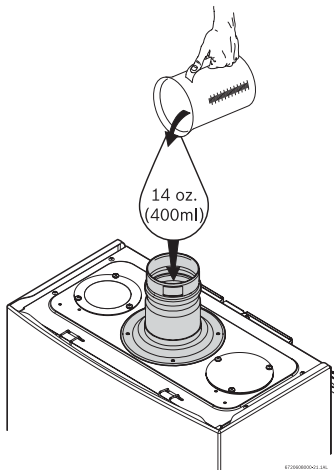

Fig. 18 Filling the condensate trap at start up
- Fill the condensate trap by pouring approx.14 oz. (400ml) of water into the exhaust accessory on the top of the appliance, see Fig. 18.